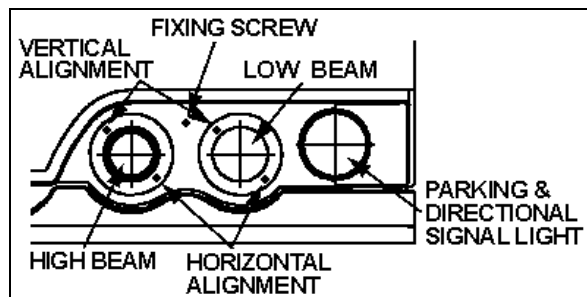

FIGURE 27: HEADLIGHT ASSEMBLY 06546
Headlight aim should be checked after installing a new bulb. Aiming can be performed without opening headlight assembly. Horizontal and vertical aiming of each module is provided by two adjusting screws that pivot the module in the housing for proper alignment (fig. 27). There is no adjustment for focus since the module is set for proper focus during manufacturing assembly.
- Remove the headlight screw fixing the headlight assembly, then tilt headlight assembly down (Fig. 27 and 29).
2. Remove the headlight screw fixing the headlight assembly, then tilt headlight assembly down (Fig. 27 and 29).